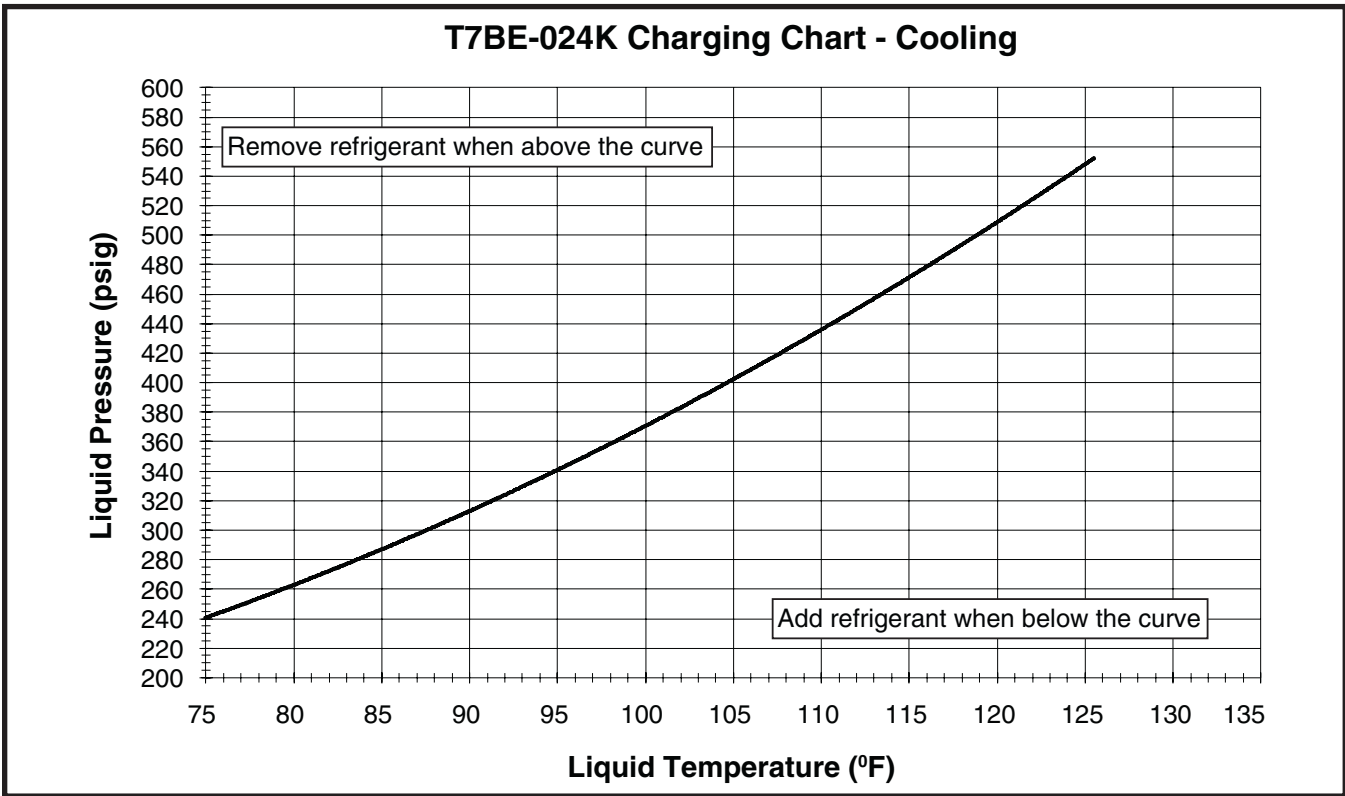
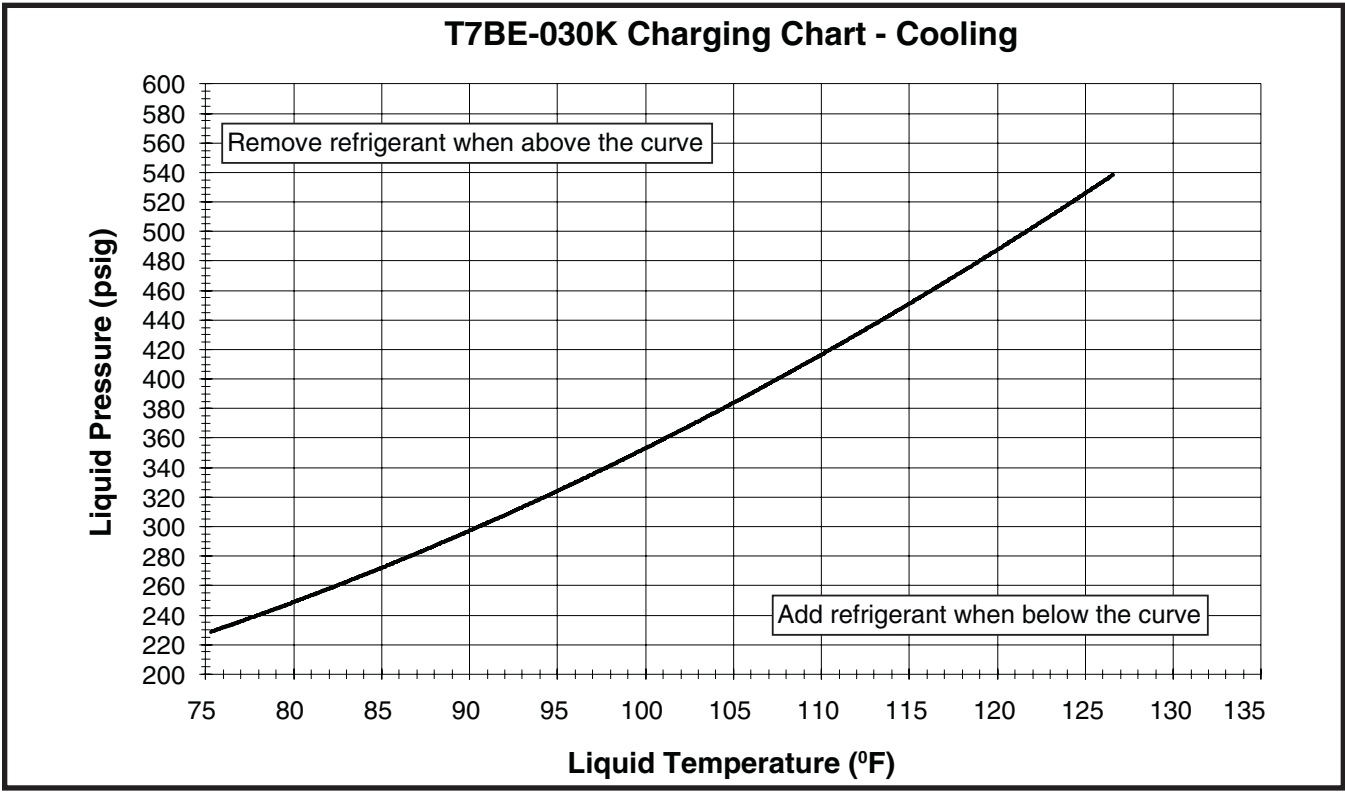
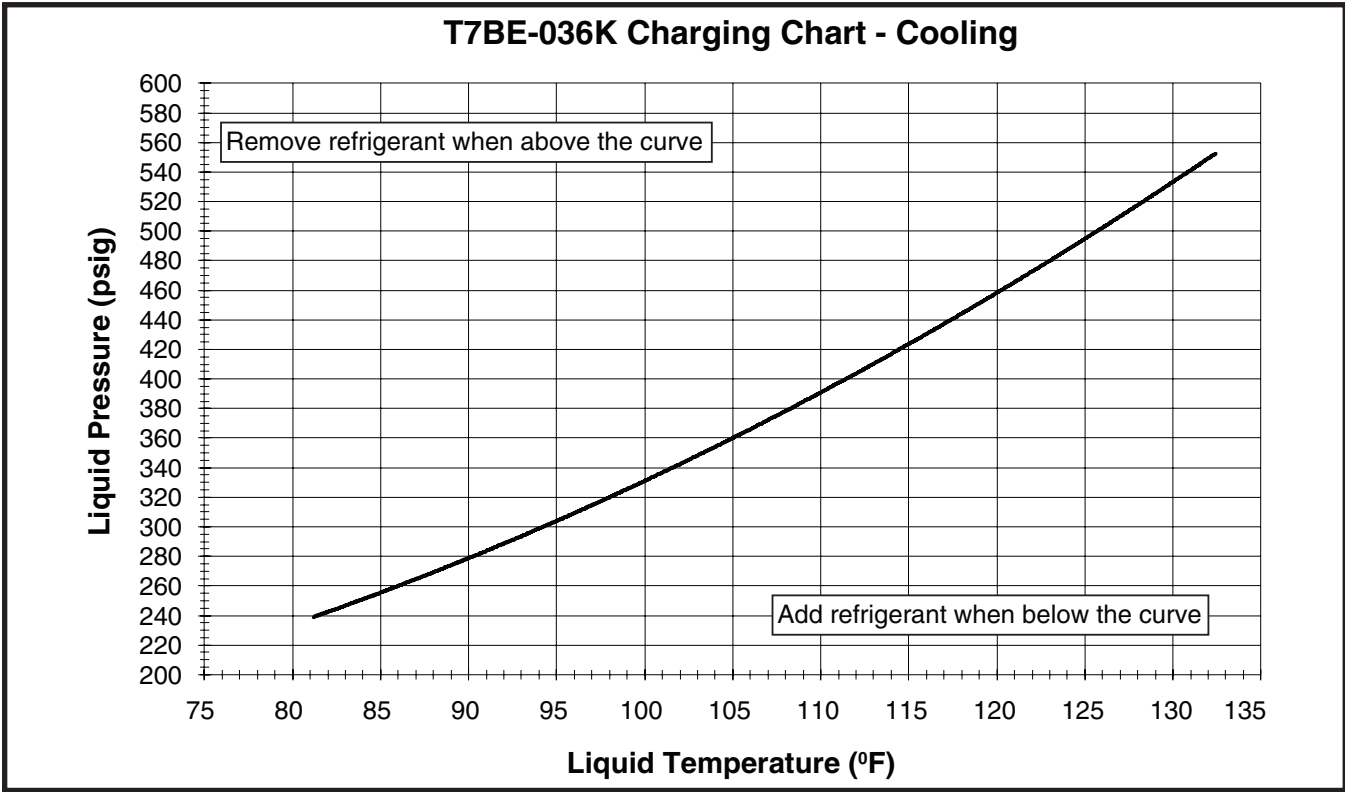
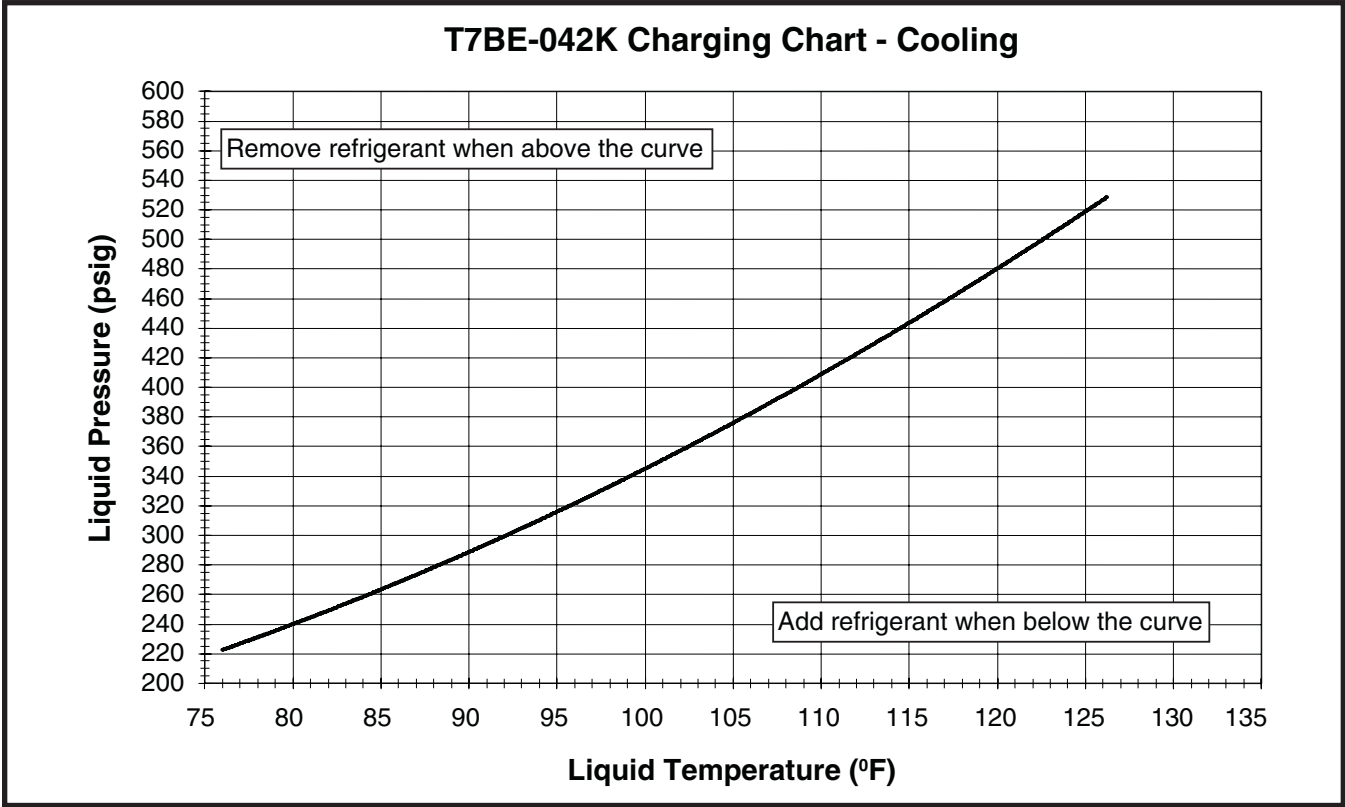

Figure 6. Charging Chart for 2 Ton Models
Figure 7. Charging Chart for 2.5 Ton Models
Figure 8. Charging Chart for 3 Ton Models
Figure 9. Charging Chart for 3.5 Ton Models
- Cooling mode charging charts and tables are applicable only to matched assemblies of this equipment and listed airflows for the indoor coil. Refer to the Quick Reference Data sheet for additional charging information. Outdoor units with non-AHRI listed indoor coils are not recommended and deviations from rated airflows or non-listed combinations may require modification to the expansion device and refrigerant charging procedures for proper and efficient system operation. For correct system charging, refer to Figure 5 \(page 9\), Figure 6 \(page 10\), Figure 7 \(page 10\), Figure 8 \(page 11\), Figure 9 \(page 11\), and Figure 10 \(page 12\).
3. Determine the required liquid refrigerant pressure from Figure 5, Figure 6, Figure 7, Figure 8, Figure 9, & Figure 10.
- As shown in the charging charts, the ideal system sub-cooling can vary over the range of operation. Reference the charts (Figure 5, Figure 6 (page 10), Figure 7 (page 10), Figure 8 (page 11), Figure 9 (page 11), and Figure 10 (page 12)) to determine the ideal amount of sub-cooling for a given liquid pressure. Units charged to other values will not perform at the rated unit efficiency (EER) or rated Coefficient of Performance (COP) in heating mode.